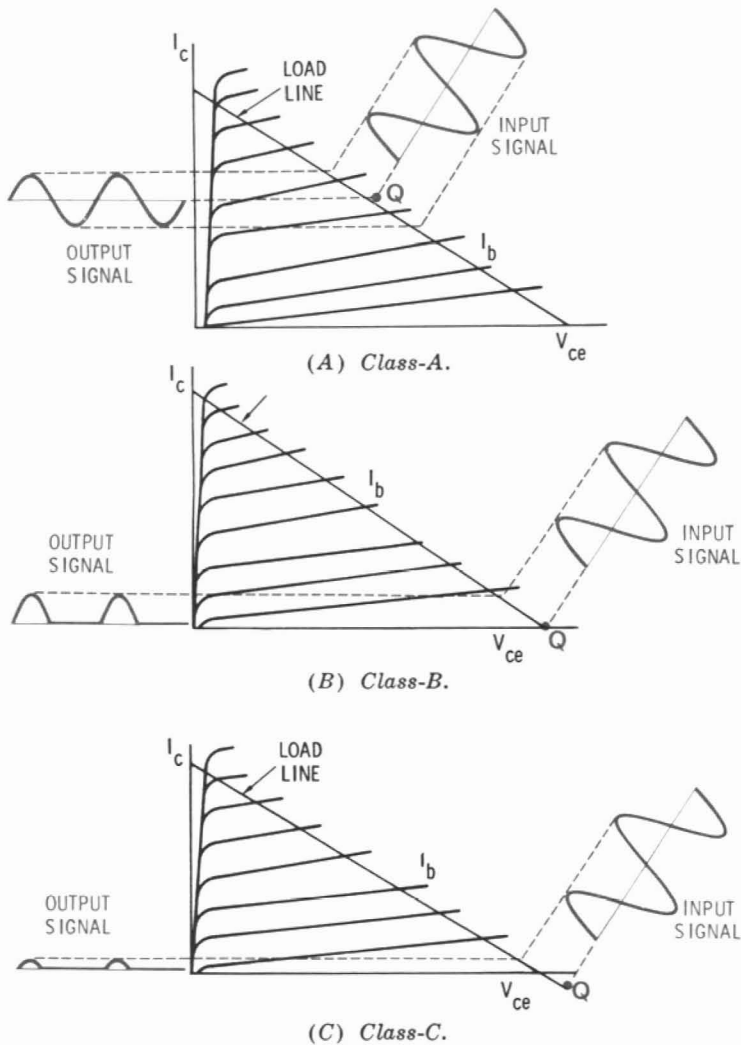

Fig. 4-2. Transistor bias and classes of amplifiers.
To indicate the effect that transistor bias has on the classification of an amplifier, the common-emitter output characteristic curves will be used. Fig. 4-2 shows the curves and the situation for the three classes. The discussion here assumes a resistor load and a coupling capacitor (an RC amplifier). In the more detailed sections on the class-B and class-C amplifiers, it will be seen that this RC network is not very practical for these two classes. The intention here, then, is just to indicate the relationship that exists between the class of amplifier, bias conditions, and amplitude of input signal.
- Q4-4. From Fig. 4-2 it can be seen that if no signal is applied, the class-\_\_\_\_\_ amplifier is the only one for which direct current (not signal current) appears in the collector circuit.
- A4-4.** From Fig. 4-2 it can be seen that if no signal is applied, the class-A amplifier is the only one for which direct current (not signal current) appears in the collector circuit.